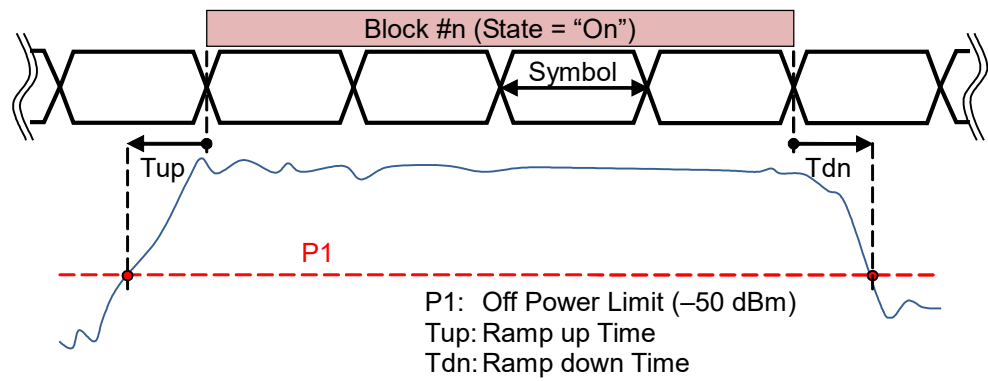

Figure 3.22-5 Block Ramp up / Ramp down Calculation Range
- Refer to Figure 3.22-5 Block Ramp up / Ramp down Calculation Range
- Figure 3.22-5 shows the calculation range of Ramp up and Ramp down.